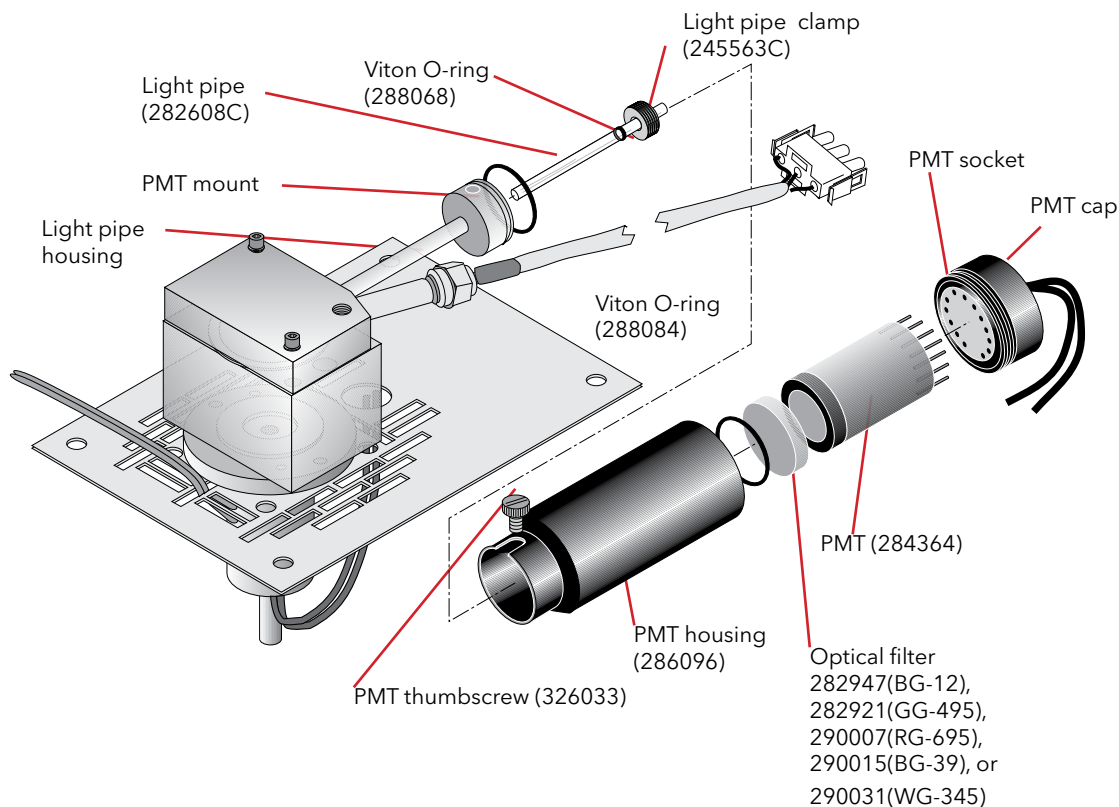

Figure 7.3. Photomultiplier Tube (PMT) Assembly
The three main components of the PFPD's photomultiplier assembly that can be replaced are the PMT, the optical filter, and the light pipe (Figure 7.3).
If changing the PFPD's operational mode, the optical filter may have replacing in the PMT housing assembly (Figure 7.3). Chapter 12, "Photomultiplier Tube and Filter Configurations for Various Element Detection" provides a list of suitable filters for different modes. Use the following procedure if the optical filter(s) needs replacing:
3. Detach the PMT housing assembly (PN 286096) from the PMT mounting by loosening the PMT thumbscrew (PN 326033) and gently pull off the housing. Wiggle the housing back and forth, if necessary, to remove it. Open the PMT housing assembly by unscrewing the PMT housing counterclockwise from the cap (Figure 7.3).
3. Detach the PMT housing assembly (PN 286096) from the PMT mounting by loosening the PMT thumbscrew (PN 326033) (Figure 7.3). Place it where it cannot accidentally drop or roll.